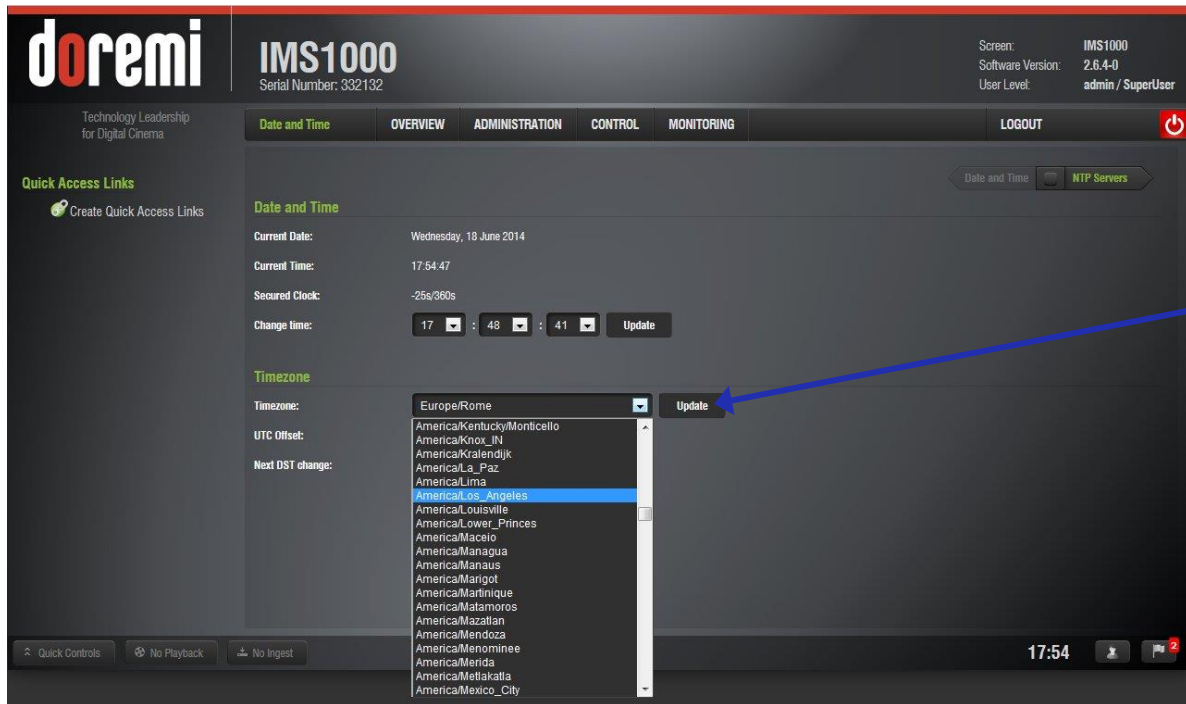

Figure 102: TimeZone Drop-Down Window
- A list of time zones will appear (Figure 102).
- Once the appropriate timezone has been selected and appears within the box labeled Timezone, click the Update button to save this setting (Figure 102).